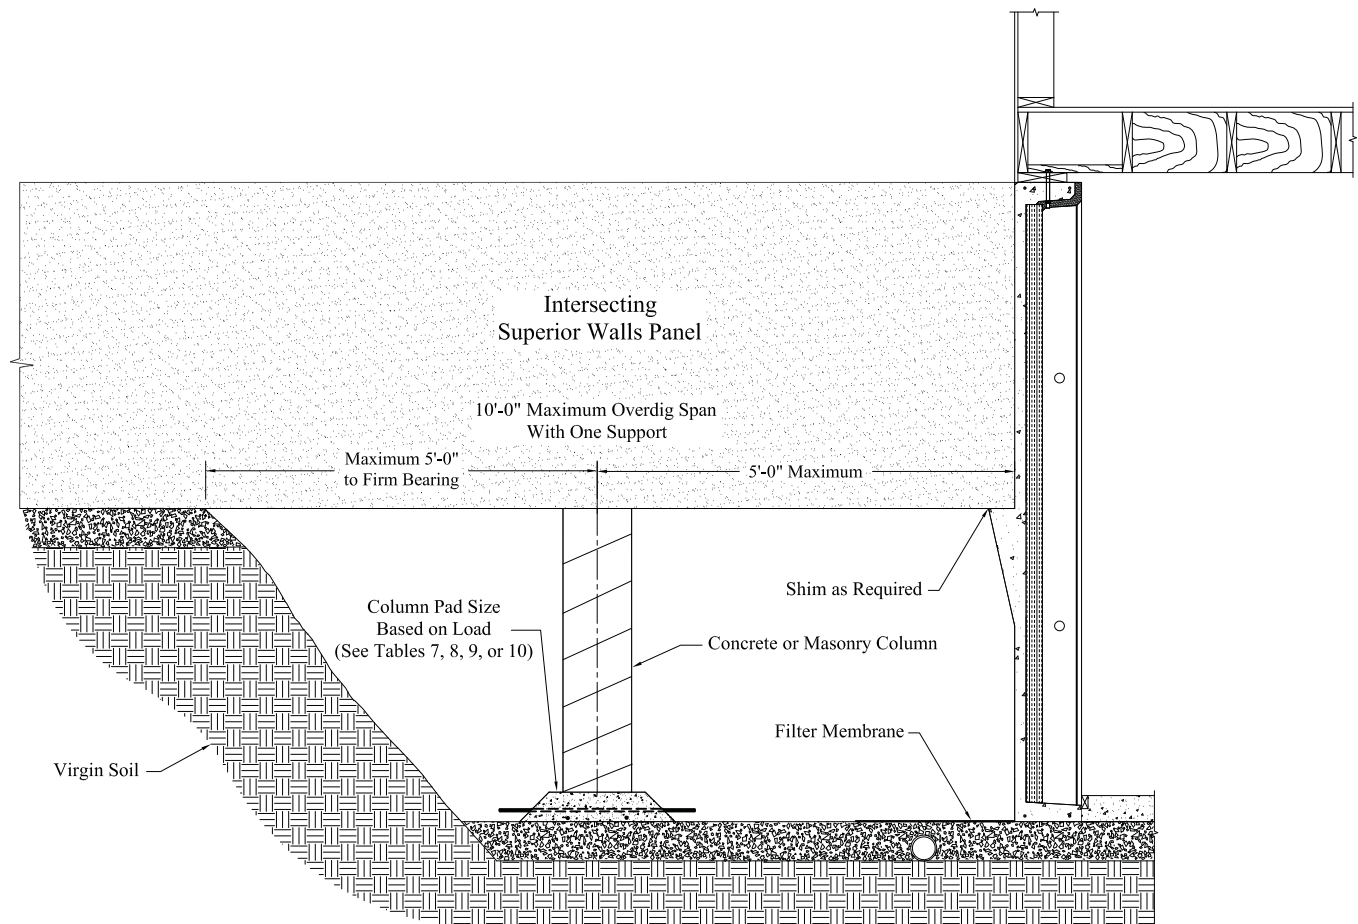

Figure 5
- When an overdig is more than 5'-0", an intermediate support column is required unless project-specific engineering is provided. (See Figure 5.)